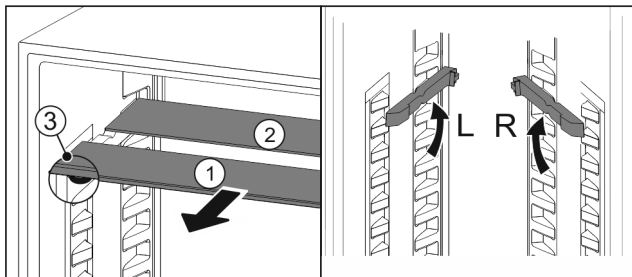

Fig. 93
- Pull the glass panels out Fig. 93 (1) from the front, one at a time.
- The glass panel Fig. 93 (1) and trim strip are at the front.
- The stops Fig. 93 (3) point down.